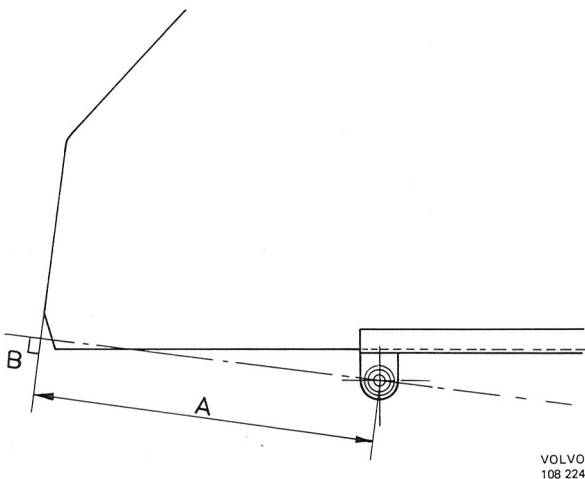

Fig. 8-18. Window dimensions, 142 and front door 144, 145
1. Install the window in the window channel according to Fig. 8-18 and 8-19.